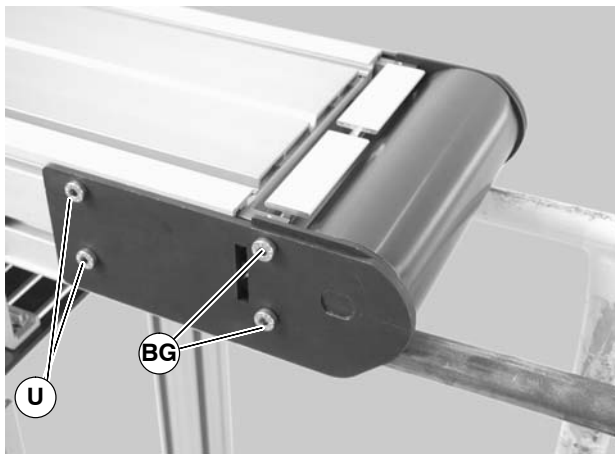

Figure 44
2. On one side of conveyor, loosen the two (2) back fastening screws (U of Figure 44) and remove two (2) front fastening screws (BG).